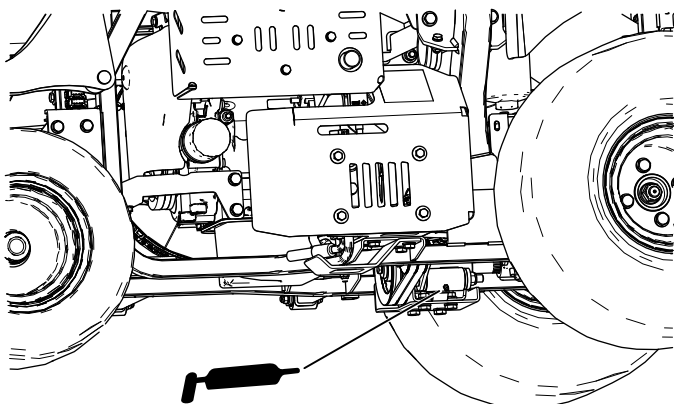

Figure 41
- Transmission idler (Figure 41).